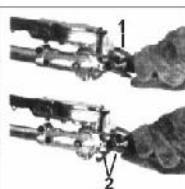

Fig.HT6
2. With the index finger of your left hand, press the latch release. With your left thumb, press the latch lock. See Fig.HT6